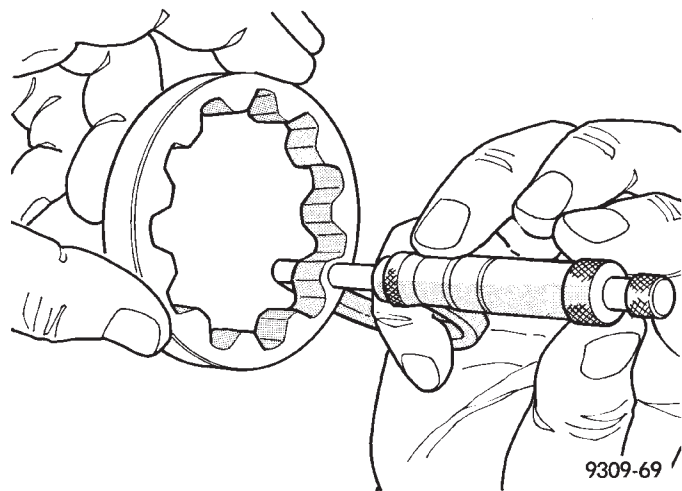
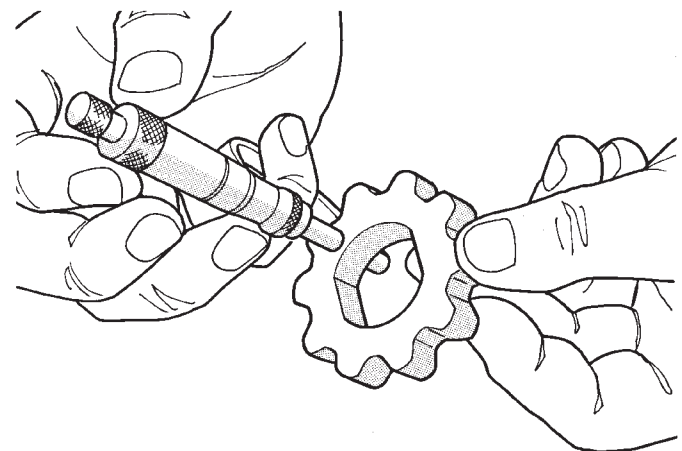

Fig. 119 Measuring Outer Rotor Thickness
Fig. 120 Measuring Inner Rotor Thickness
(3) Measure the thickness of the outer rotor (Fig. 119). If the outer rotor thickness measures at 12.005 mm (0.400 in.) or less the oil pump assembly must be replaced.
(4) Measure the diameter of the outer rotor. If the outer rotor diameter measures at 85.925 mm (3.383 in.) or less the oil pump assembly must be replaced.
(5) Measure the thickness of the inner rotor (Fig. 120). If the inner rotor thickness measures at 12.005 mm (0.400 in.) or less then the oil pump assembly must be replaced.